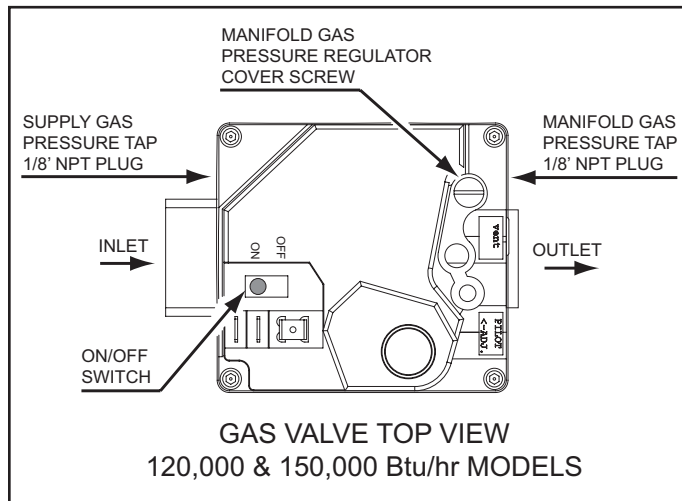
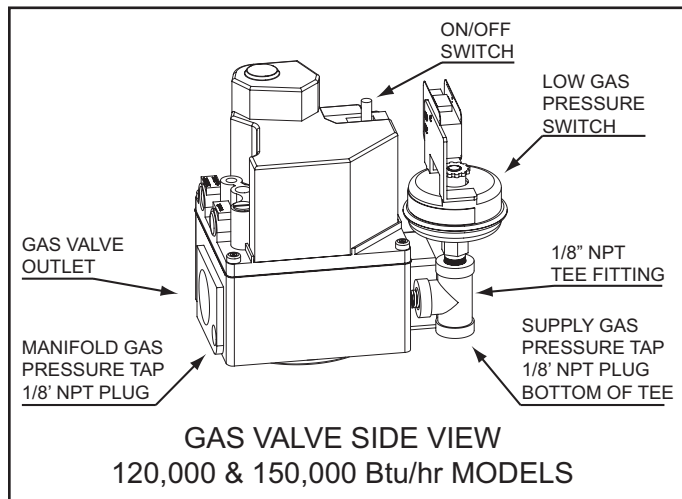

Figure 57
Figure 58
On SUF 120 and 150 models there is a 1/8" NPT Tee fitting and pipe nipple installed for the Low Gas Pressure switch on the inlet side of the 24 Volt Gas Valve with a 1/8" pipe plug for this purpose. Remove the 1/8 inch pipe plug from the bottom of the Tee fitting and install a barb fitting to connect the manometer sensing tube, see Figure 58 on page 53.
SUF 120 & 150 models: remove the 1/8 inch pipe plug from the body of the gas valve on the outlet side and install a barb fitting to connect the manometer sensing tube, see Figure 57 on page 53.
1. SUF 120 & 150 models: turn the on/off switch on the gas valve to the "on" position, see Figure 57 and Figure 58.
2. Remove the manifold gas pressure regulator cover screw, see Figure 57 on page 53.